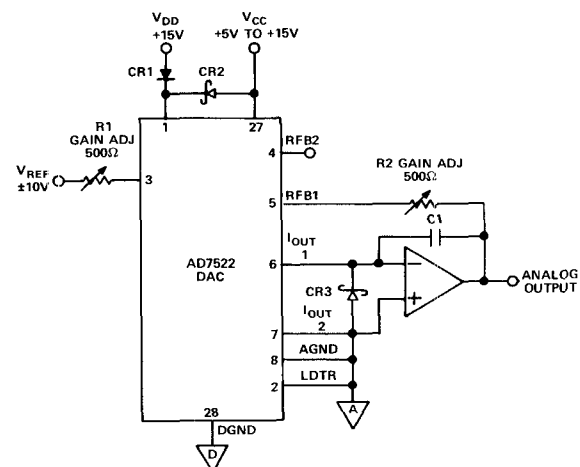
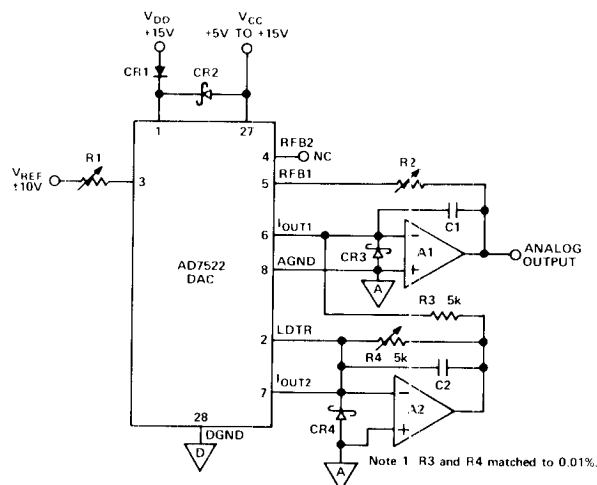

Figure 3. Unipolar Binary Operation (2-Quadrant Multiplication)
Figure 4. Bipolar Operation
Figure 3 shows the analog circuit connections required for unipolar operation. The input code/output voltage relation-ship is shown in Table 1.
Figure 4 shows the analog circuit connections required for bipolar operation. The input code/output voltage relationship is shown in Table 2.
- CR1 and CR2 on Figures 3 and 4 protect the AD7522 against latch-up V_{CC} exceeds V_{DD} , and may be omitted if V_{DD} and V_{CC} are driven from the same voltage.
- Diodes CR3 on Figure 3 and CR3 and CR4 on Figure 4 clamp the amplifier junction to -300mV if they attempt to swing negative during power up or power down. The input structures of some high-speed op amps can supply substantial current under the transient conditions encountered during power sequencing. It is recommended that the PC layout be able to accommodate the diodes.